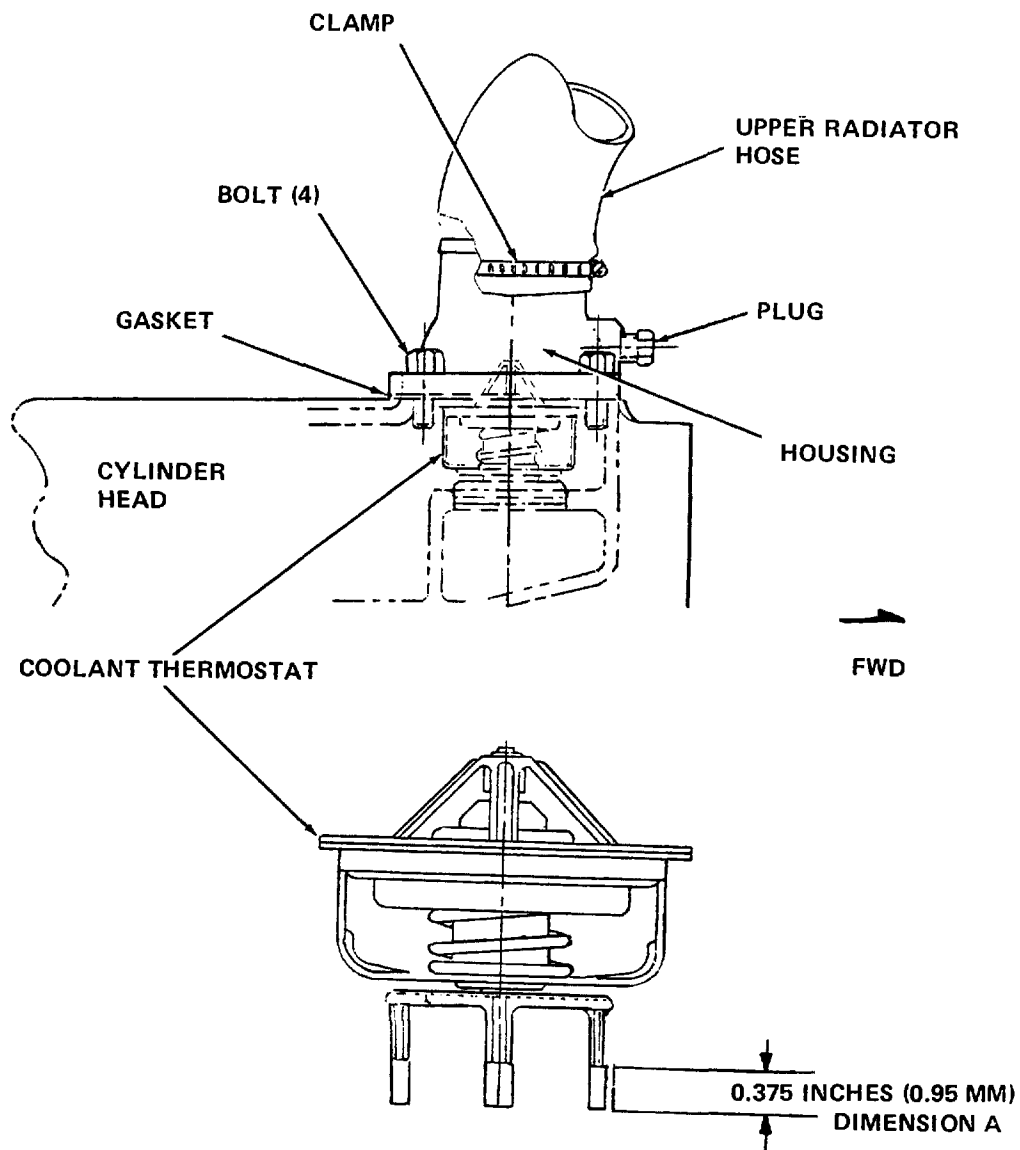

Figure 4-55. Coolant Thermostat, Replacement and Testing
a. Inspect. Visually inspect coolant thermostat housing for damage or deformity (see figure 4-55). Check for leakage around gasket or plug.
b. Test. (See figure 4-55.)